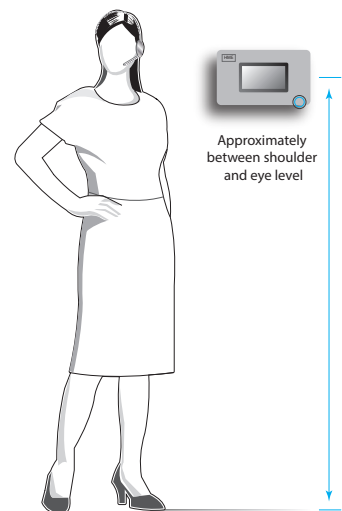

Fig. 2.1
2. Mount the Base Station at an optimal height from the floor with the touchscreen visible and within easy reach to comfortably operate with fingers. The recommended mounting height is 5 feet (1.52 m), see Fig. 2.1.